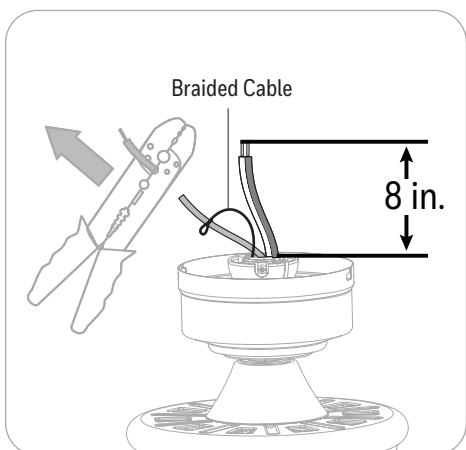

Figure 3.4
4. Depending on the length of downrod you use, you may want to cut the fan wires to simplify wiring. After pulling the wires all the way through the downrod, measure 8 inches of wire. Cut off the excess wire using wire cutters (not included) **WARNING:** Do not cut the braided cable (Figure 3.4).